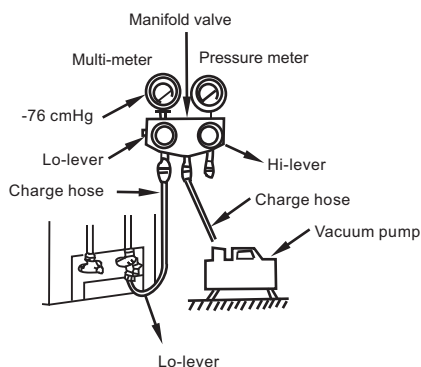

Fig.7-4
■ Expel the air with a vacuum pump (Refer to Fig.7-4) (Please refer to its manual for the way of using manifold valve)